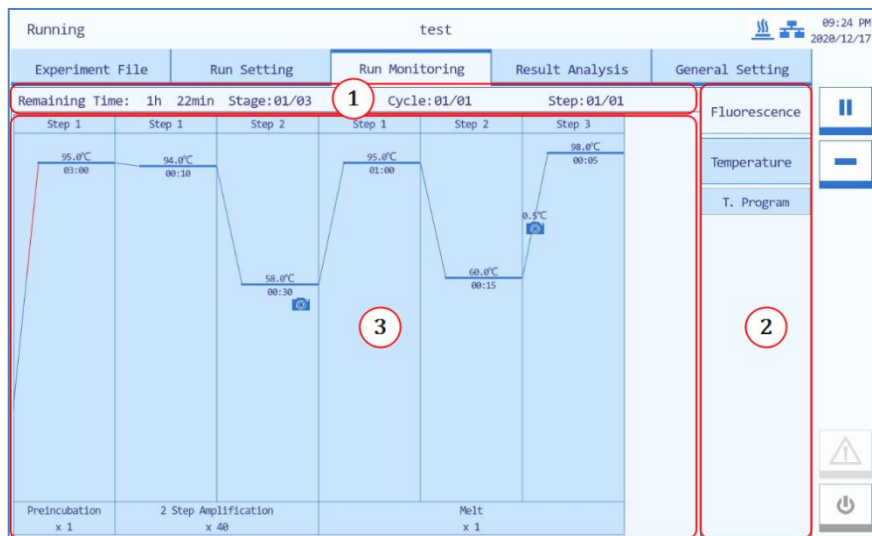

Figure F-3. System Software – Run Monitoring Interface
After starting running the experiment, the system will enter the run monitoring interface, which is consisted of three parts: **Run Status Bar**, **Run Monitoring Option Bar** and **Run Monitoring Diagram**, as shown in figure F-3.
- ▶ **Temperature:** The default interface of *Run Monitoring* tab. It displays the *T. Program* and running process, as shown in figure F-3. The flashing dark blue pattern represents the running step.